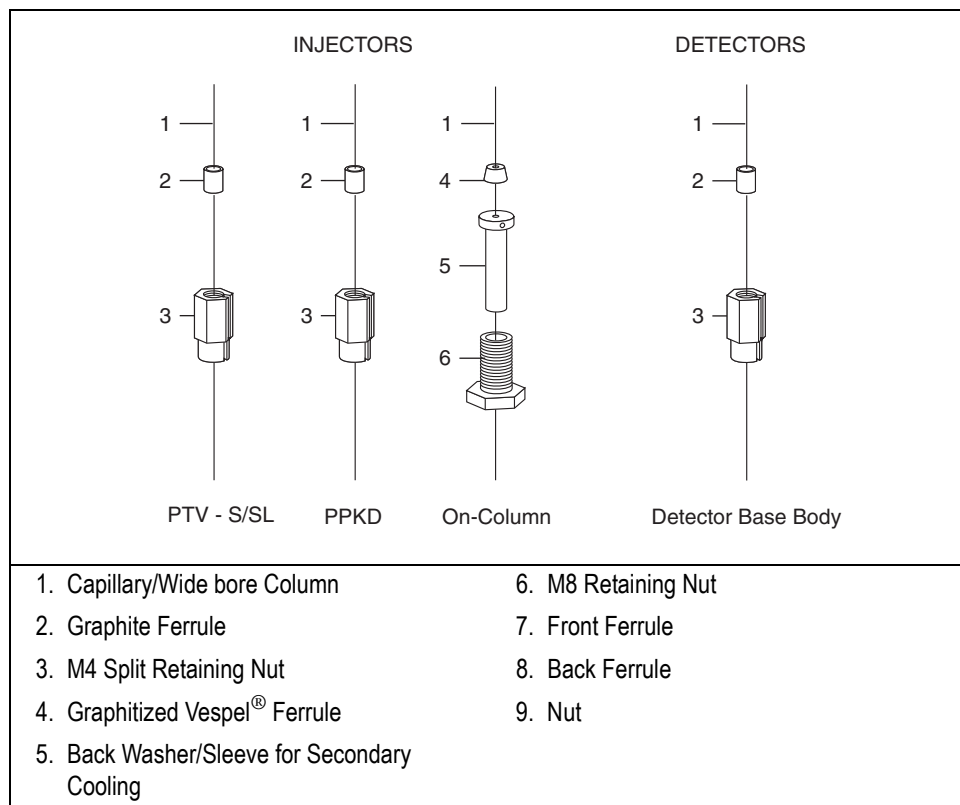

Figure 15-1. Capillary/Wide Bore Column to Injector and Detector Base Body Connections
M4 split retaining nuts are used to connect capillary columns to injector and detector base bodies. The nuts are split to allow easy installation and removal. On-column injectors require a dedicated M8 retaining nut. Figure 15-1 shows how to connect capillary or wide column to injector and detector base body.
1. Slide the M8 Vespel[®] ferrule, the secondary cooling sleeve, and the retaining nut onto the capillary column (or pre-column, if used). See Figure 15-1 on page 248 for the correct assembly order.